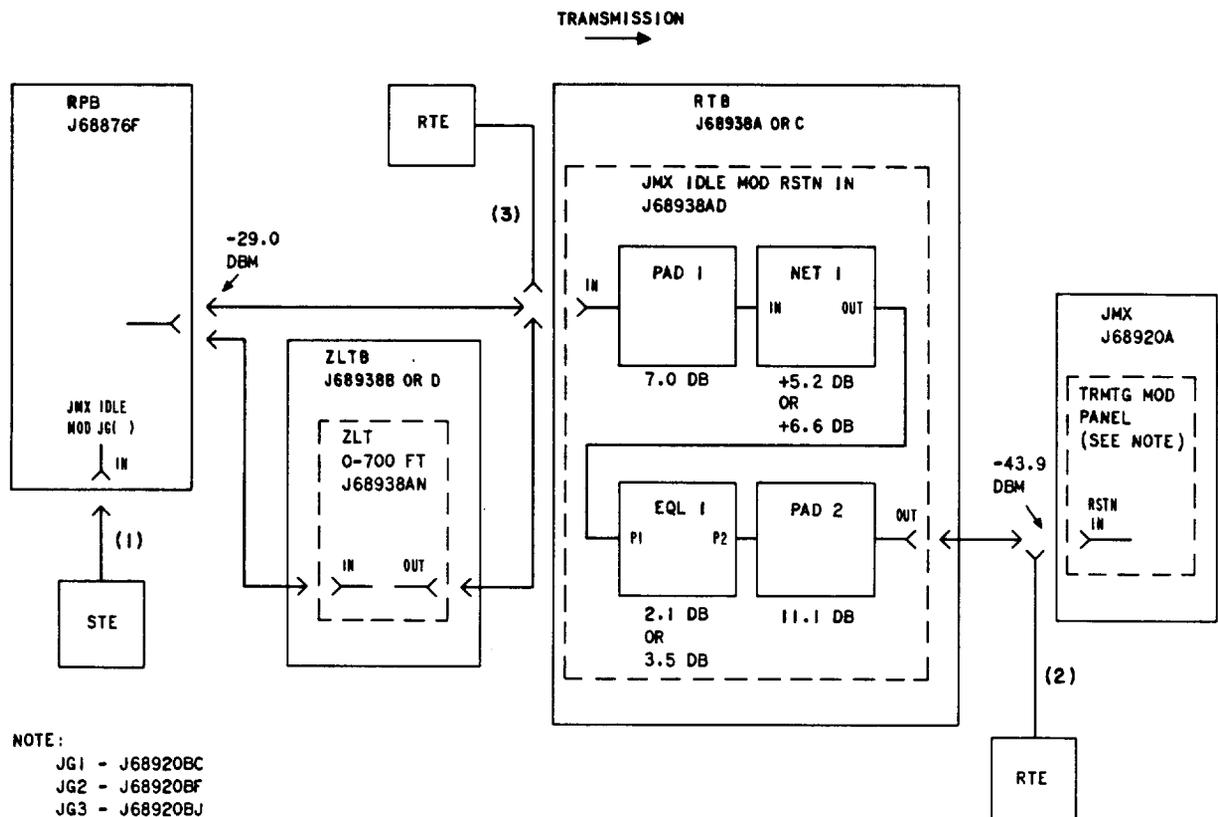

Fig. 4—JMX Idle Transmitting Modulator Input Restoration Trunk Circuit
4	Connect the STE to the JMX IDLE MOD IN jack at the RPB (J68876F) [Fig. 4, patch (1)].
- 9 Remove cable from the IN jack at the JMX IDLE MOD RSTN IN unit in the RTB and connect cable to the RTE [Fig. 4, patch (3)].
21	Remove cable from the RSTN IN jack located in back of the MOD panel at the TRMTG JMX. See local office records to determine proper jumbogroup. Connect RTE to cable [Fig. 4, patch (2)].
34	Remove the STE from the JMX IDLE MOD IN jack in the RPB [Fig. 4, patch (1)].
35	At the TRMTG JMX, remove cable from the RTE and restore to the RSTN IN jack on back of the MOD panel [Fig. 4, patch (2)].